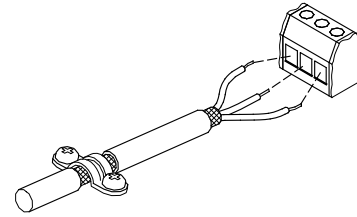

Fig. 26 Example of stripped cable with screen
- Leave the screen as close to the connecting terminals as possible. See fig. 26.